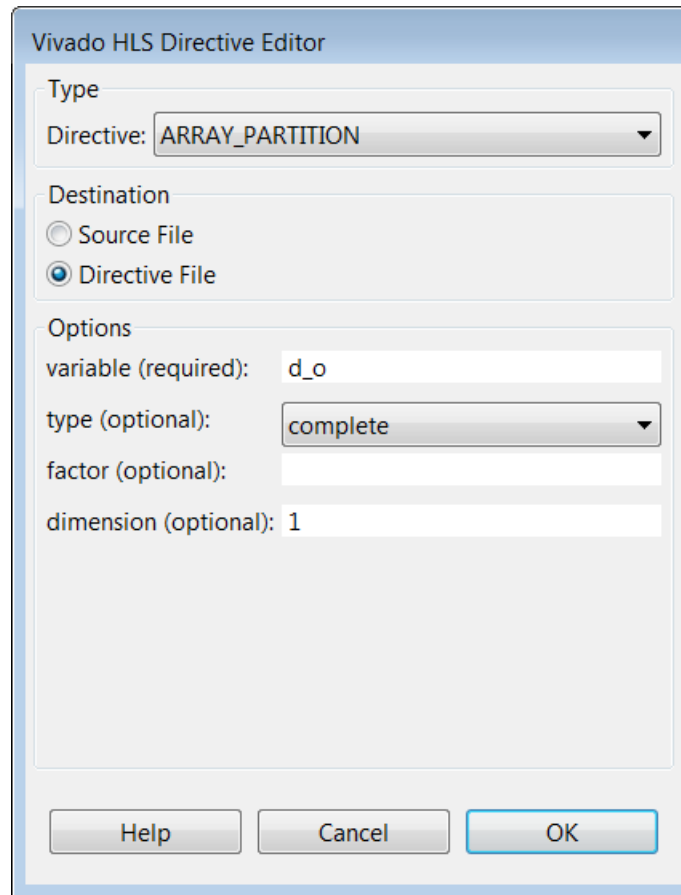

Figure 79: Directives Editor for Partitioning Array d_o
- c. With the Directives Editor as shown in Figure 79, click **OK**.